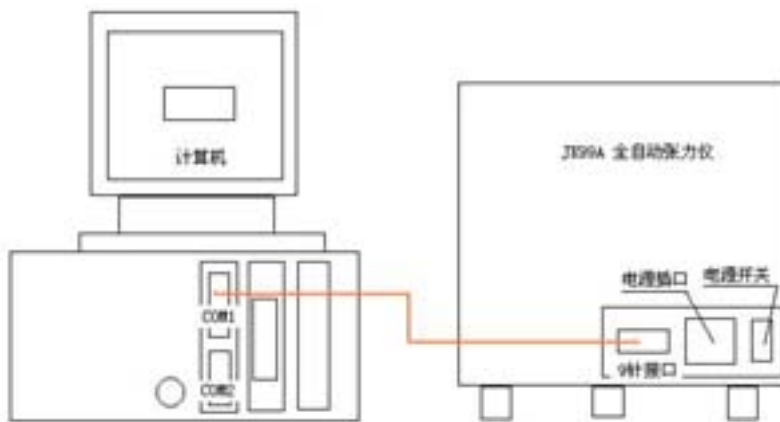

Figure 3 Connection diagram of the instrument
- Connect the nine-pin cable to the instrument and the COM1 port of the computer. If no COM1 port is available, please use the USB port instead. The power supply cable is connected to both the instrument and its socket. Please refer to Figure 3.